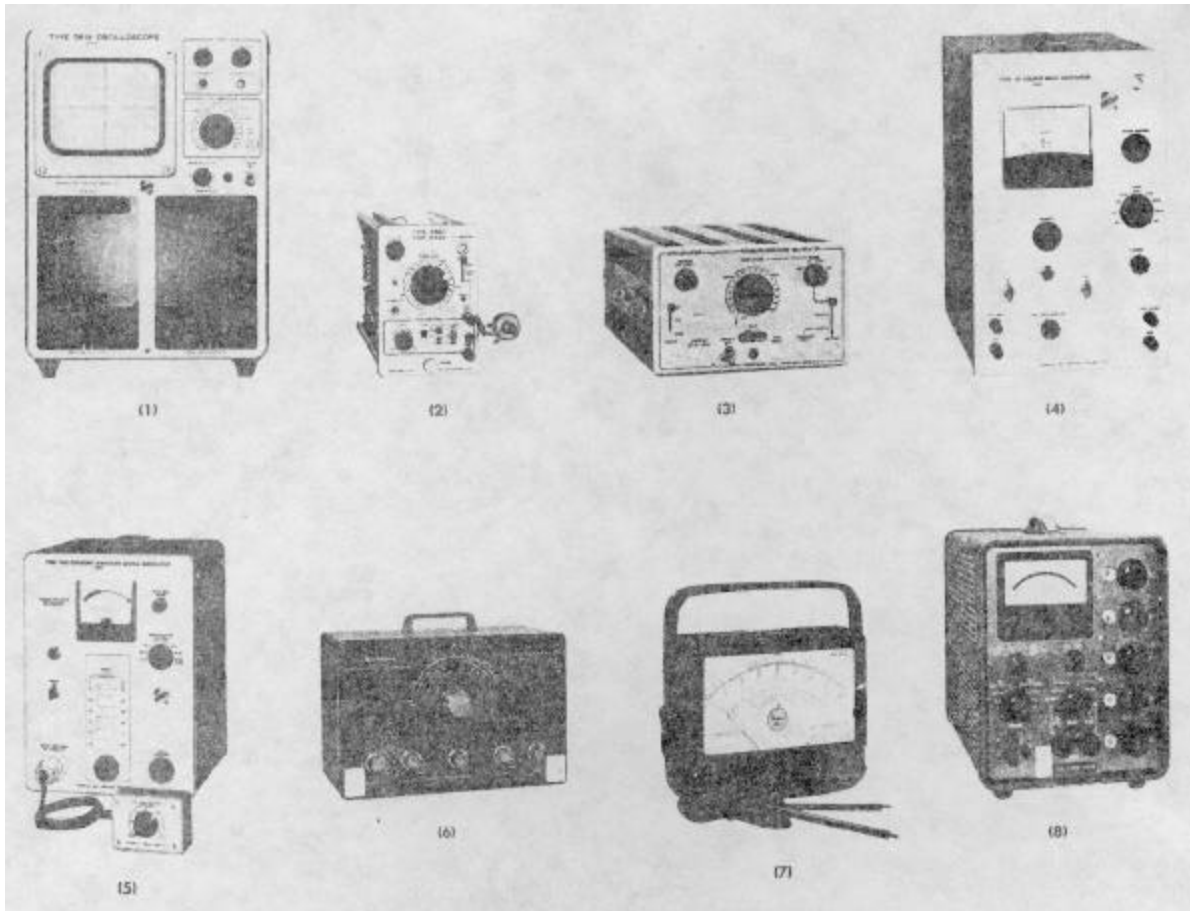
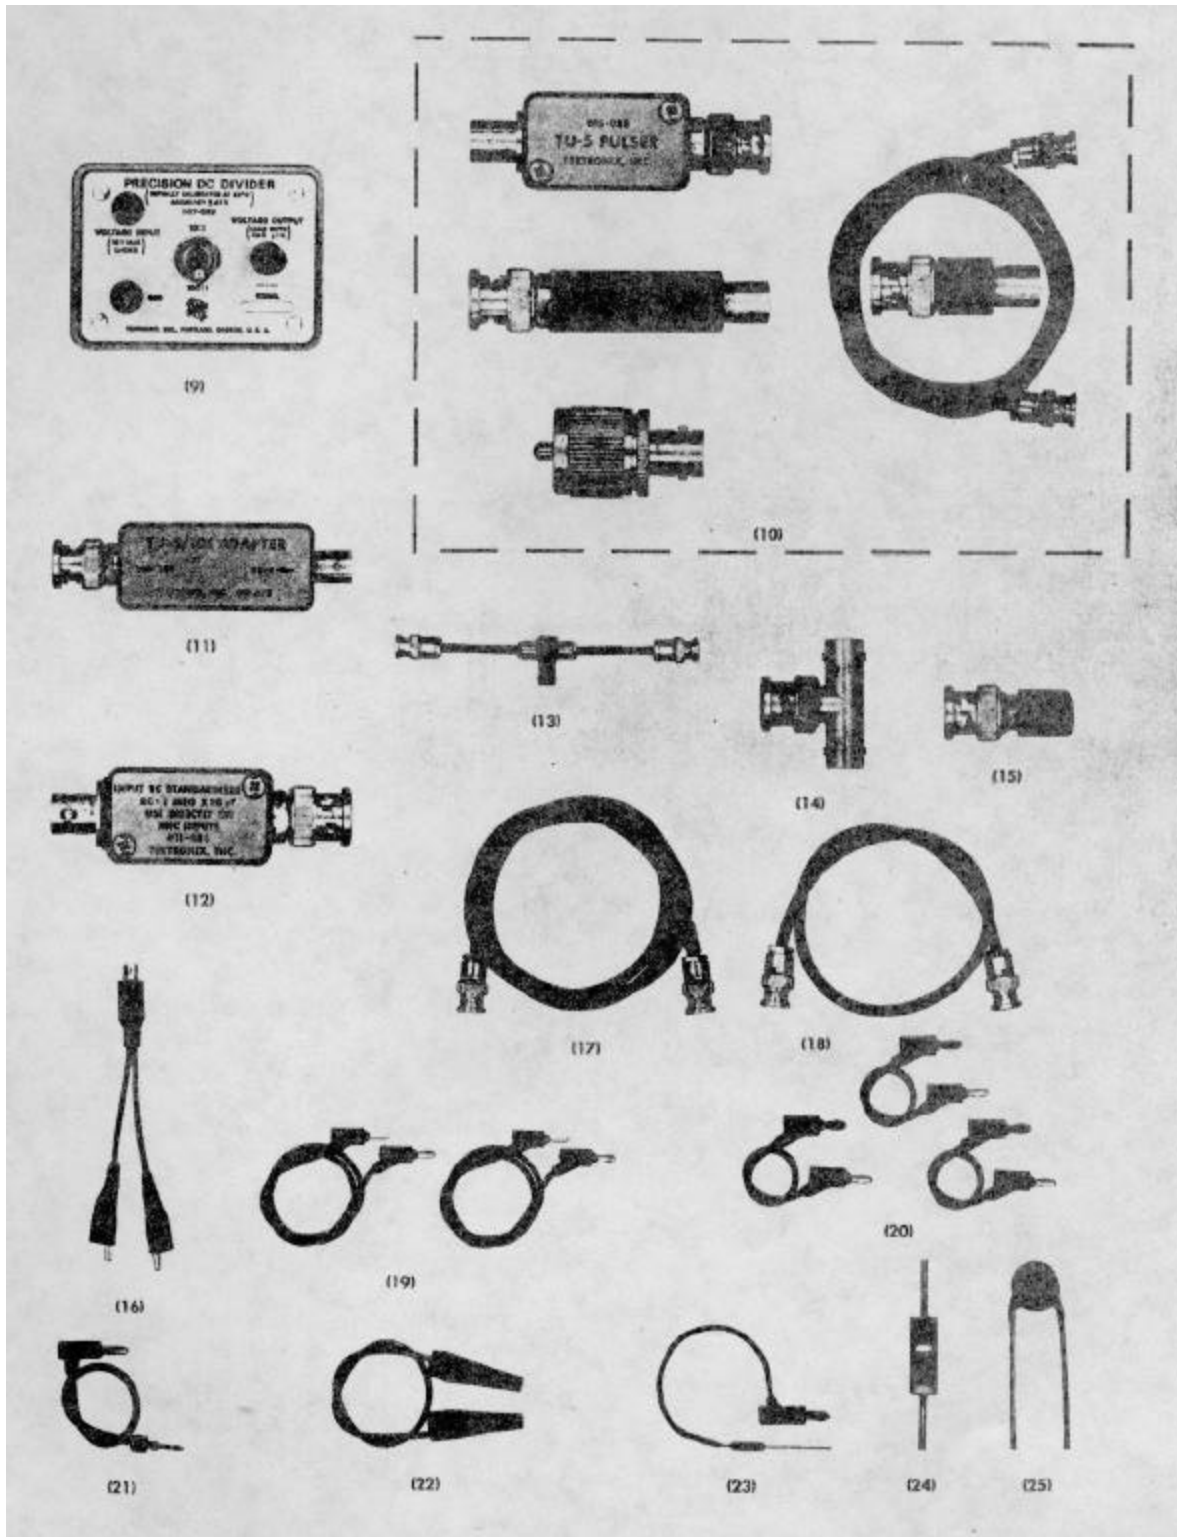
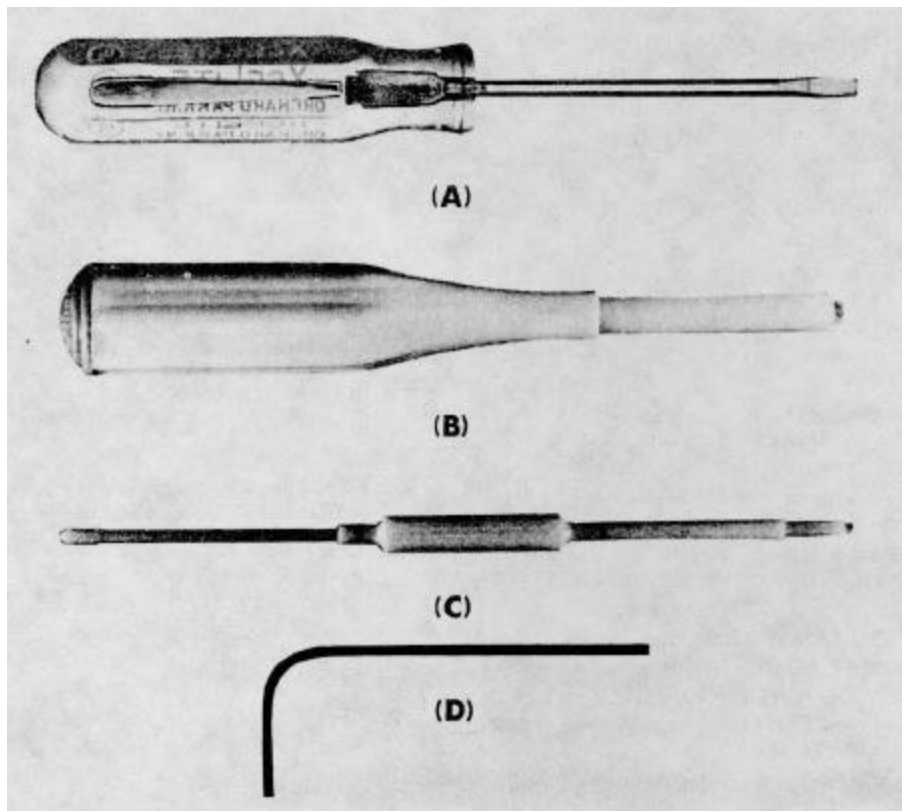

Fig. 5-1. Equipment required for a complete calibration of the Type 3A7.
Fig. 5-2. Accessories used in calibration of the Type 3A7.
Fig. 5-3. Adjustment tools
The following equipment, or equivalent, is required for a complete calibration of the Type 3A7. Exception: Item 7 dc voltmeter can be deleted if you use item 8 to perform steps 2 and 6 in the procedure. Fig. 5-1 shows items 1 through 8; Fig. 5-2 shows items 9 through 23; Fig. 5-3 shows the adjustment tools needed.
(1) Oscilloscope, Tektronix 560-Series which accepts the Type 3A7 plug-in. The oscilloscope must operate properly.
(2) Type 267 Time-Base Plug-In Unit, or equivalent. Required if item 1 does not have its own internal time base.
Horizontal deflection required is approximately 5 V/div. The Type 3B4 Time-Base Plug-in Unit (not shown in Fig. 5-1) is ideally suited for this purpose. Or, a plug-in amplifier can be used if the time-base unit does not have the external horizontal input facility.
If a Type 2B67 is used, the external input sensitivity is about 1 V/div. To obtain a deflection factor of about 5 V/div, simply connect a 50,000-ohm potentiometer between the Ext Input connector and ground as shown in Fig. 5-1, item 2.
(16) Adapter, clip lead. Equipped with a BNC jack connector on one end and alligator clips on the leads. Tektronix Part No. 013-0076-00.
(17) 50-ohm (nominal impedance) coaxial cable, 42 inches long, with a BNC plug connector on each end. Tektronix Part No. 012-0057-00.
(18) 50-ohm (nominal impedance) coaxial cable, 18 inches long; equipped with a BNC plug connector on each end. Tektronix Part No. 012-0076-00.
(19) Two patch cords, 18 inches long, with banana plug and jack combination connector on each end. Tektronix Part No. 012-0031-00.
(20) Three patch cords, 6 inches long, with banana plug and jack combination connector on each end. Tektronix Part No. 012-0024-00.
(21) Jumper lead, 6 inches long, with a tip plug on one end and a banana plug and jack combination connector on the other end. (Tip plug fits Vc OUT jack on Type 3A7.)
(22) Jumper lead, 7 inches long, with miniature insulated alligator clips on each end.
(23) Resistor, fixed, 1 M $\Omega$ , 1/2 or 1/4 W, 1%. Tektronix Part No. 323-0481-00 for the 1/2-W resistor. Solder a 4-inch lead equipped with a banana plug to one lead of the resistor.
(24) Resistor, fixed, 47 $\Omega$ , 1/2 W, 10%. Tektronix Part No. 302-0470-00.
(25) Capacitor, fixed, 0.001  $\mu$ F, 50V or higher. Tektronix Part No. 283-0000-00 for a 500-V discap capacitor.
(26) Adjustment tools (one each, see Fig. 5-3):